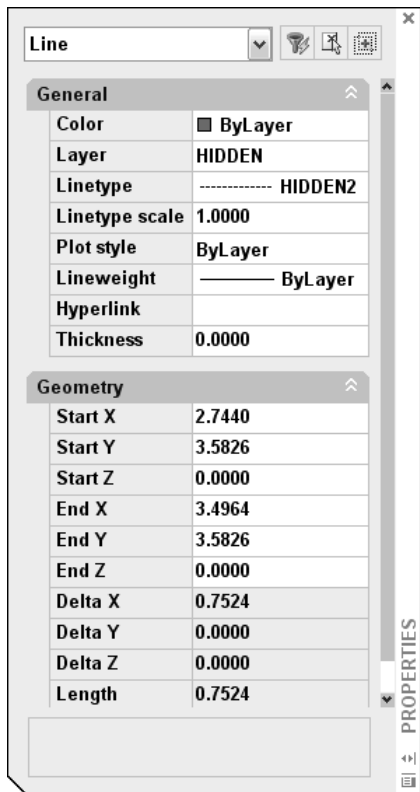

Figure 11-18: The Properties palette.
- ♦ If you want to change other properties at the same time, select the object and choose Properties from the Standard toolbar. The Properties palette opens, shown in Figure 11-18. In this window, you can change all the properties of the object. To change the color, choose Color and click the drop-down arrow that appears. Choose the color that you want.
- ♦ Select the object and choose Properties from the Standard toolbar. The Properties palette (refer to Figure 11-18) opens. To change an object's linetype, click Linetype, and then click the drop-down arrow that appears. Choose from one of the linetypes.